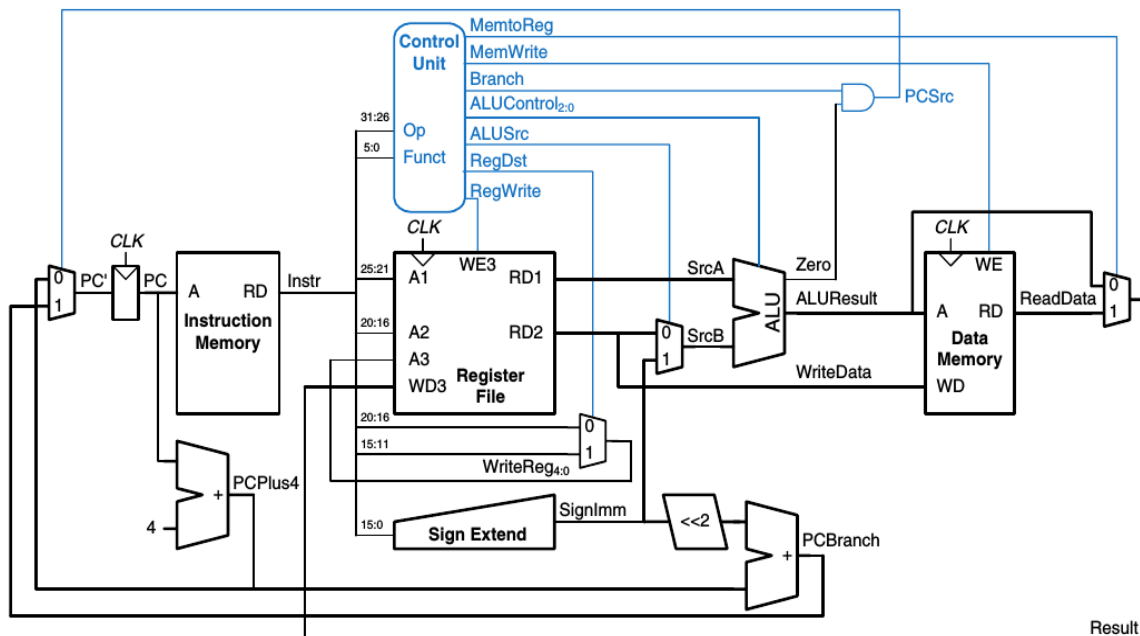

Figure 1: Single cycle MIPS processor
1. Modify the single-cycle MIPS processor to implement one of the following instructions. Mark up a copy of Figure 1 to indicate the changes to the datapath. Name any new control signals. Mark up a copy of Table 1 to show the changes to the main decoder. Describe any other changes that are required.